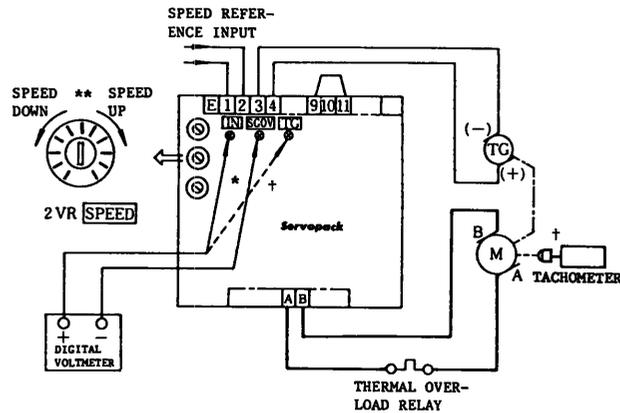

Fig. 12 Setting of Motor Speed
(a) Setting the motor speed (Fig. 12)
- * Short-circuit terminal 9 with 11, or 2 and, apply ± 6.0 VDC (ripple 6 mV p-p or less) across terminals 1 and 2 of Servopack. With the connection shown in Fig. 12, +6 V input results in forward rotation, whereas -6 V input reverses the rotation.